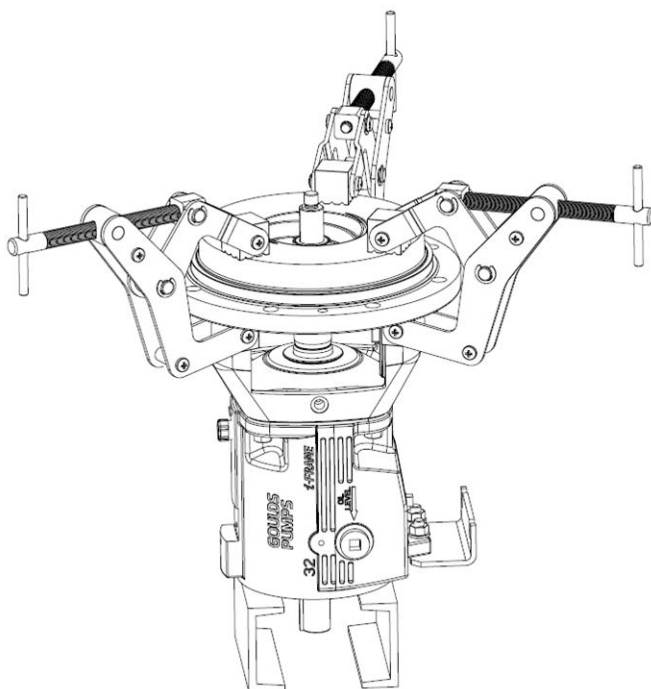

Figure 44: Assembly arrangement
2. Orient the assembly vertically on appropriately sized blocks -- See Figure 44: Assembly arrangement on page 85.
8. If casing cover (161) to frame adapter (344) retention studs (920.32) are not supplied, install clamps as shown in Figure 44: Assembly arrangement on page 85 after seating casing cover (161) in frame adapter (344) with dead blow or lead hammer.
9. Install shaft sleeve (524).
21. Measure from top of appropriate K14153A bar to impeller (230) back hub face as shown in Figure 44: Assembly arrangement on page 85 and record value in A1 field.